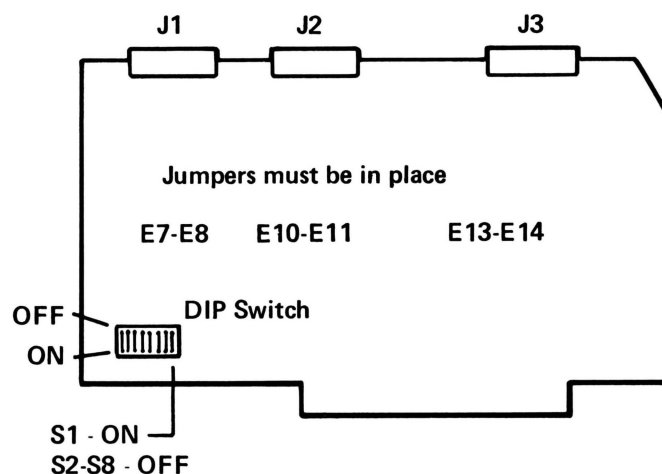

Figure 2-2. DIP Switch Settings
2. Remove the card holding brackets from either side of the card cage to allow the Multiterminal Interface board to be installed. Attach the cable end(s) to the connector(s) on the Multiterminal Interface Board. The DIP switch S1 must be set for the proper operation as noted in Figure 2-2. Slide the board into the connector slot as shown in Figure 2-1. The Multiterminal Interface board must be in the interrupt chain. Therefore, there must be no empty slots between the board and J1. The Multiterminal Interface board must be in J1 if no other boards are present.